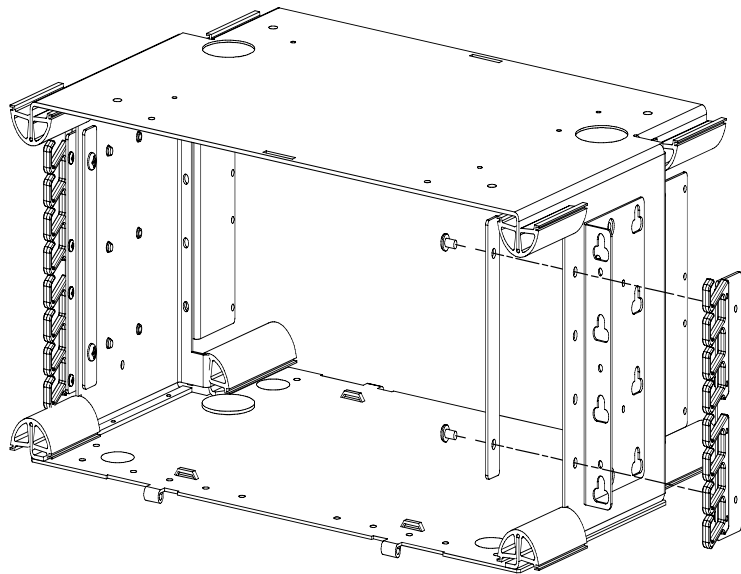

Figure 32 - Installing a Standard Isolation Hook Kit
- b. Installing an isolation hook kit: (See Figure 32.)